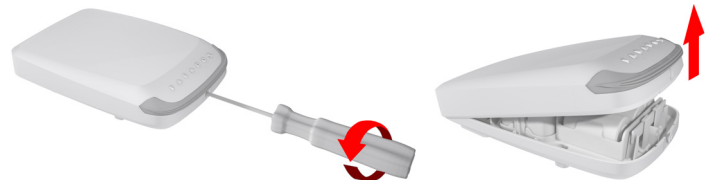

Figure 2: Removing the Top Cover
1. Remove the front cover (see Figure 2).